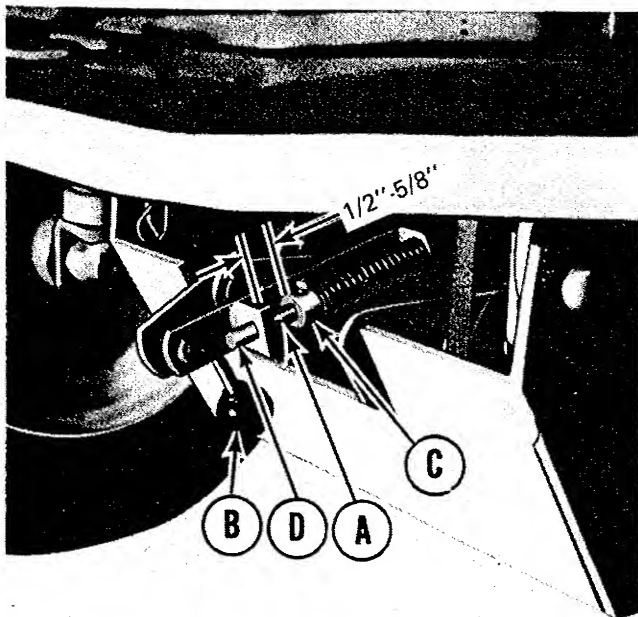

Figure 12. Belt tightening adjustment located on front hitch assembly.
11. Check the distance between the set collar and rod guide shown in figure 12. If the distance is not $1/2'' - 5/8''$ adjust the belt tension as explained on page 6 of this manual.
See figure 12. Tension on the mower drive belt is checked by
1. See figure 12. Release tension on the drive belt by pulling forward and up on the belt tightening handle (B).
2. See figure 12. Loosen the screw in set collar (C) and pull the rod (D) ahead so more of it is exposed to increase belt tension or push the rod back to decrease belt tension.
3. Tighten the screw in set collar (C).
4. Tighten the belt and check the belt tension distance (figure 12, item A).
- a. Pull the belt tightening handle (figure 12, item B) forward to release belt tension